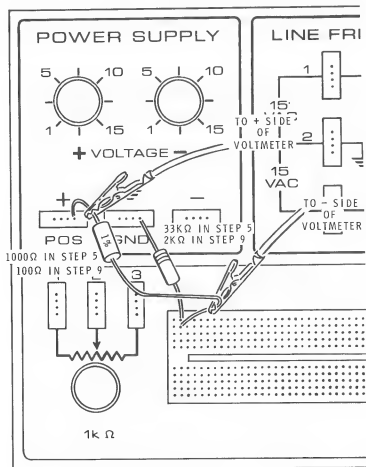

Figure 1-87
5. If your meter does not have a current function, you will have to convert your voltmeter to a makeshift ammeter by using the technique discussed in the previous experiment. Construct the circuit shown in Figure 1-87. Notice that the voltmeter in parallel with the 1000 ohm 1 percent resistor forms the makeshift ammeter. Recall that this arrangement converts the 0-1 volt scale to a 0-1 milliampere scale. Using this makeshift ammeter, measure the current in the circuit. The current is _____ milliamperes.
9. If your meter does not have current scales, use the 100 ohm 1 percent resistor in conjunction with your voltmeter and construct the circuit shown in Figure 1-87. The 100 ohm resistor and the voltmeter are now connected as a makeshift ammeter. The 0-1 volt scale is now read as 0 - 10 milliamperes.